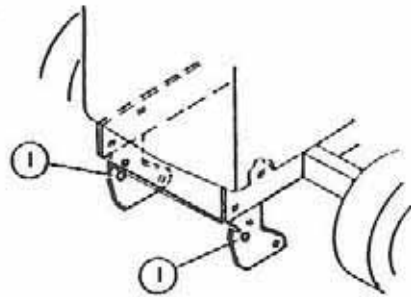

FIGURE 5
**NOTE:** On lawn tractor: if you do not have a  $13/16$ " dia. hole on front frame brackets (fig. 5, item 1), replace the brackets with the ones supplied in kit (page 12, ref. 14 and 19).
- b) Lift the front portion of subframe between the tractor mounting plates (fig. 5, item 1) and hold in place with  $3/4" \times 13.50"$  pin. Secure the pin with 3mm hair pins.